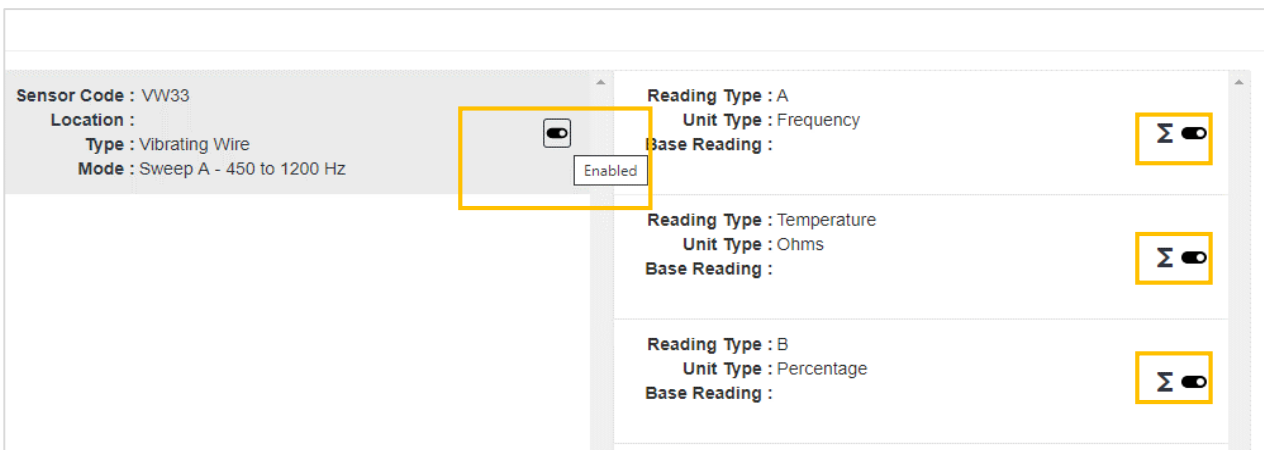

Figure 3-29
4. Enable the 'Disabled' button as shown in figure 3-29. This will enable all the parameters of that sensor (on the right side of figure 3-29). User can disable any parameter, reading of which is not required.